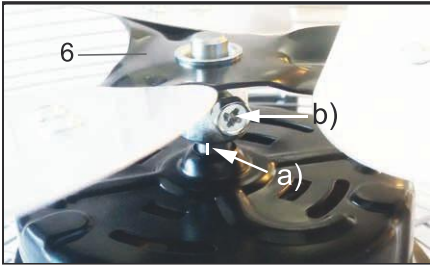

Fig.9: Mounting rotor
See Fig. 9 a).
- Tighten the rotor with the screw on the side of the spacer. See Fig. 9 b).